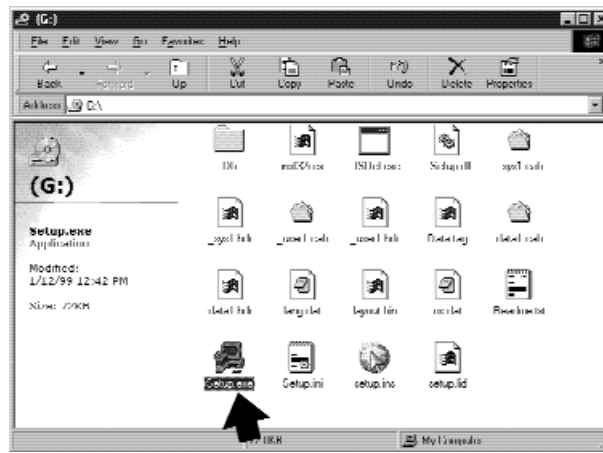

Fig. 2
3. Double-click the **My Computer** icon, then the **CD-ROM drive** icon, and then double-click the **Setup.exe** icon to start up the installer. (Fig. 2)